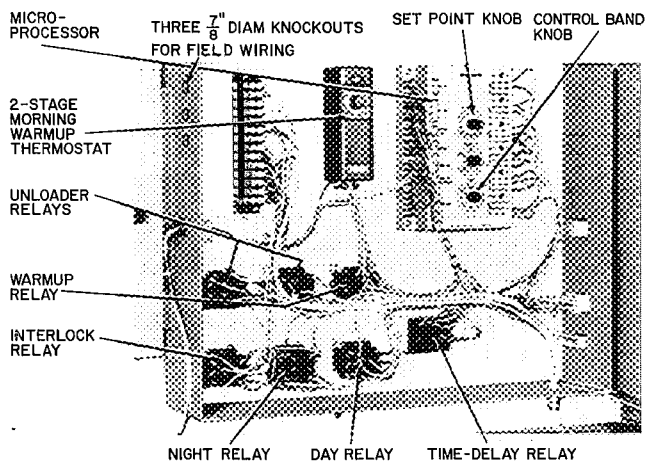

Fig. 12 — Variable Volume Box
**UNITS WITH VARIABLE VOLUME OPTION** — Units do not use room thermostats or sensors. In addition to the main control box, units are equipped with a remote box and a variable volume box. Remote box is described above (Units With Energy Management Option). The variable volume box (Fig. 12) contains a microprocessor, a morning warmup thermostat, a time-delay relay, 3 unloader relays, an interlock relay, a night relay, a day relay